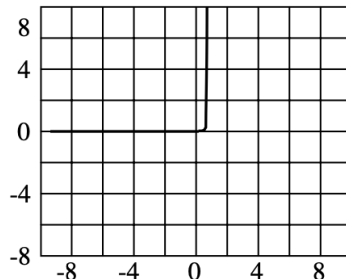

Figure 7. Expected result for the experiment
3. Plot XY using the measured $V_{R,a}$ (vertical) and V_d (horizontal) as shown in Figure 7.